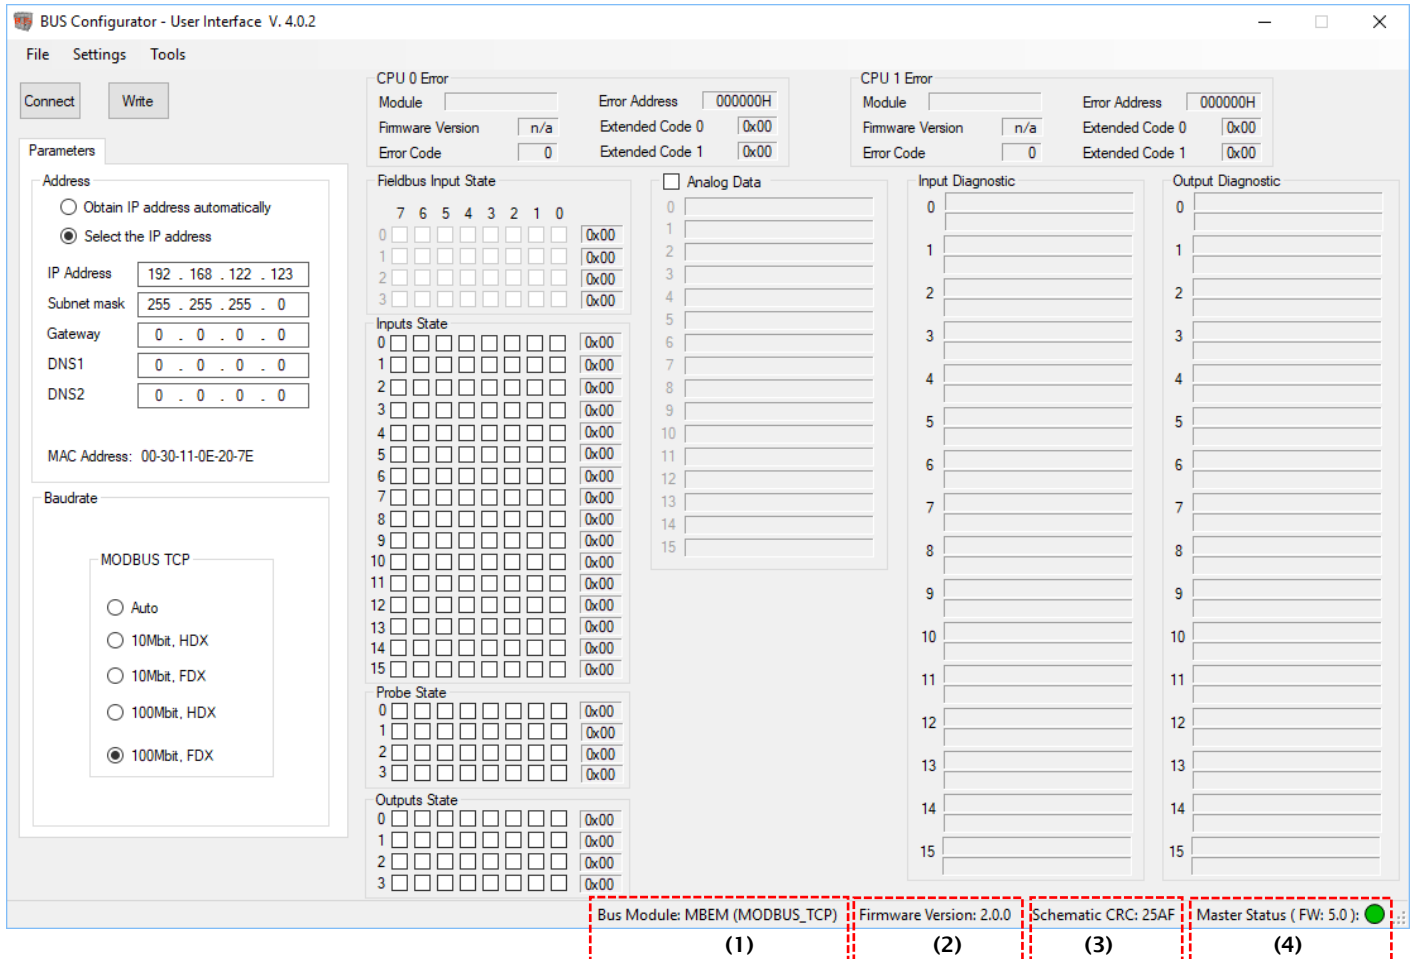

Figure 8
The program recognizes that a MBx bus module is connected (Figure 8); the status bar shows the the MBx fieldbus model (1), the MBx firmware version (2), the schematic CRC (3) and the Master status and firmware version (4):
Once the module is connected it is recognized and the operator can configure the parameters by selecting the different areas shown in Figure 8; press the **WRITE** button to send the configuration data to the module.
The input, output, analog data status and relative diagnostics are illustrated in Figure 8.